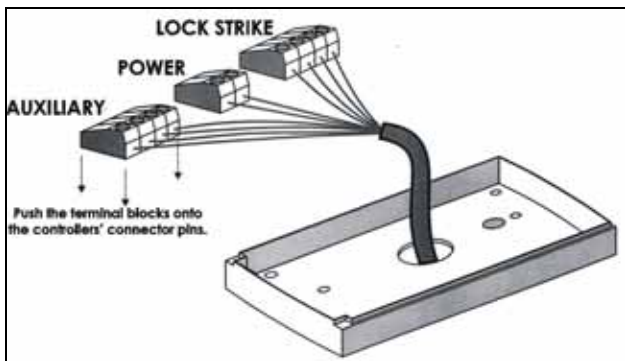

Figure 6: Connections to Terminal Blocks
- 3) Route the wires or cable through the large hole in the back cover See Figure 6. Connect the terminal blocks as shown.